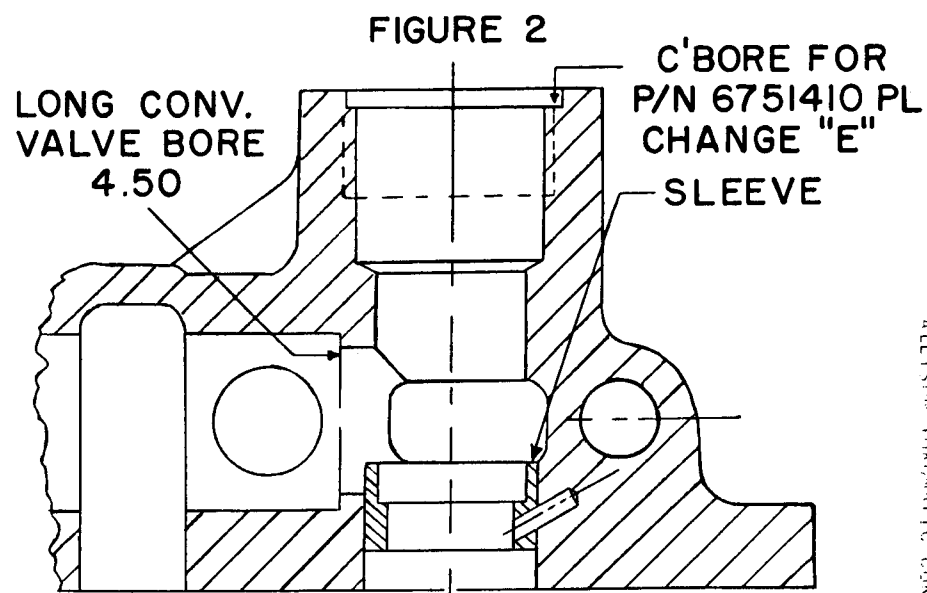

FIGURE 2
2. Effective with Torqmatic converter serial number 4648, a counterbore or countersink was added to the cover to provide additional clearance for the clutch pressure regulator hex head plug P/N 6751410. This counterbore or countersink was made in the threaded end of the clutch pressure regulator bore (see Fig. 2). This change was issued under engineering change letter "E". Coincidental with this change the following changes were also made.
- 2.1 The chamfer on the sleeve for the clutch pressure regulator valve to seat (see 1.1 above) was changed to a counterbore in the reworked castings (see Fig. 2). In the machining of the new casting this counterbore configuration was retained (see Fig. 3).
- 2.2 Interchangeability was affected by this change because converter pressure regulator valve P/N 6750877 was replaced by valve P/N 6756527, and the converter pressure regulator valve Spring P/N 6752987 was replaced by spring P/N 6756484. In the field covers to this configuration may be identified by the engineering change letter "E" which will be acid etched with the piece part number, the counterbore in the threaded end of the clutch pressure regulator bore, the counterbore in the sleeve on reworked castings (see Fig. 2) or machined in the clutch pressure regulator bore on new castings (see Fig. 3).